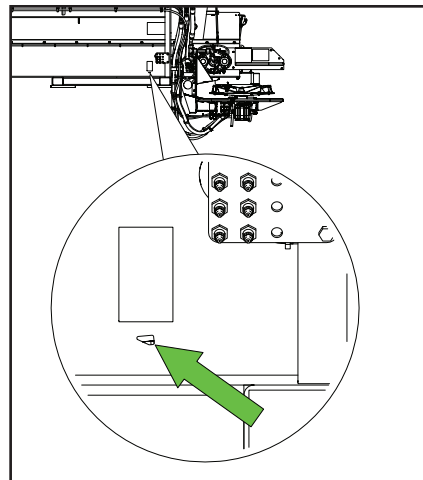
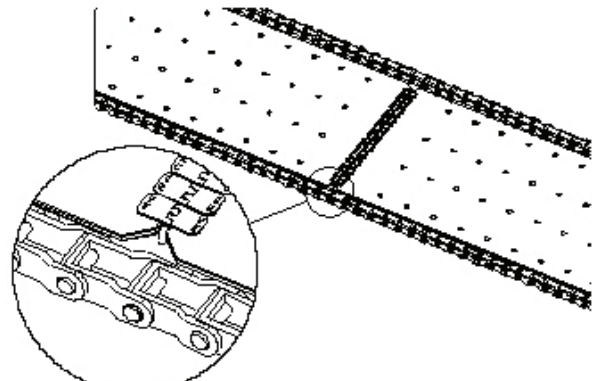

Figure 2A
Figure 3 - Conveyor Belt Connecting Pin Installation
Proper chain tension is a factor in chain and sprocket life. Measuring from rear of unit, top of chain should appear between MIN and MAX lines in sight window (Figure 2A), and conveyor should touch bottom sill flange at 36" - 40" (762 - 1016mm) mark as shown in Figure 3.
- Make sure belt connecting pin is positioned correctly as shown in Figure 3.